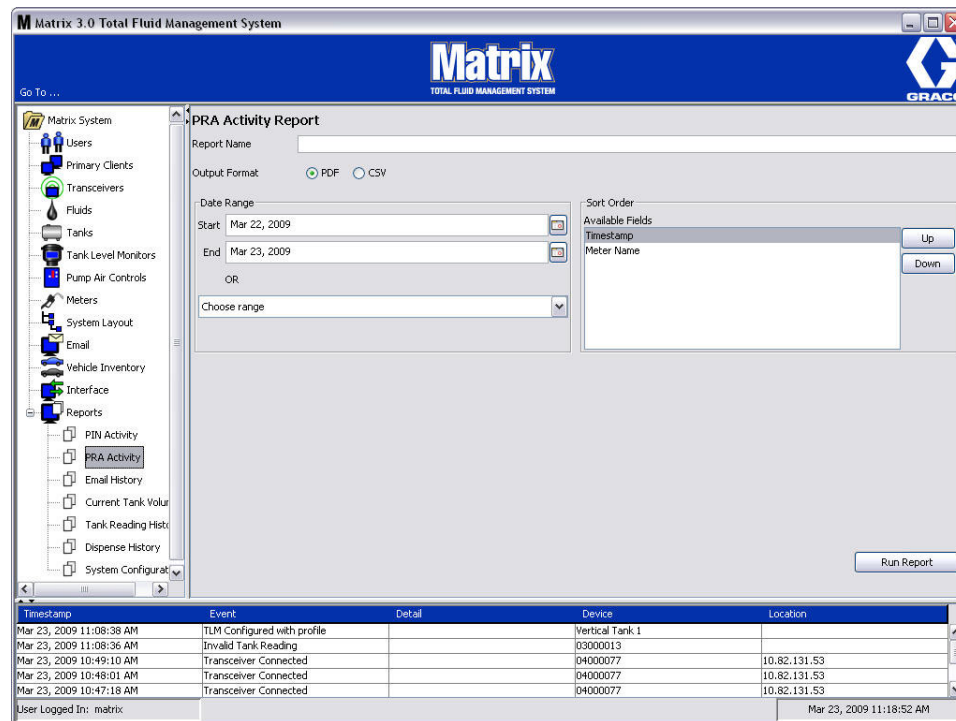

FIG. 169
- **PRA Activity Screen (FIG. 169)**